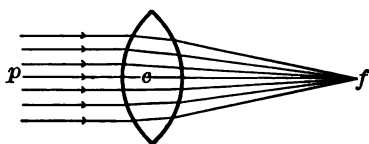

FIG. 162
In general, the effect of convex lenses is to make the refracted rays converge, *i.e.* bend toward each other (Fig. 162).
**228. The Focus; Explanation.** — *The point at which converging rays meet is called a focus.* Rays parallel to the principal axis will be refracted toward a point on the axis called the *principal focus* ( $f$ , Fig. 162).
Fig. 162 may help explain how rays are brought to a focus by means of a lens. From